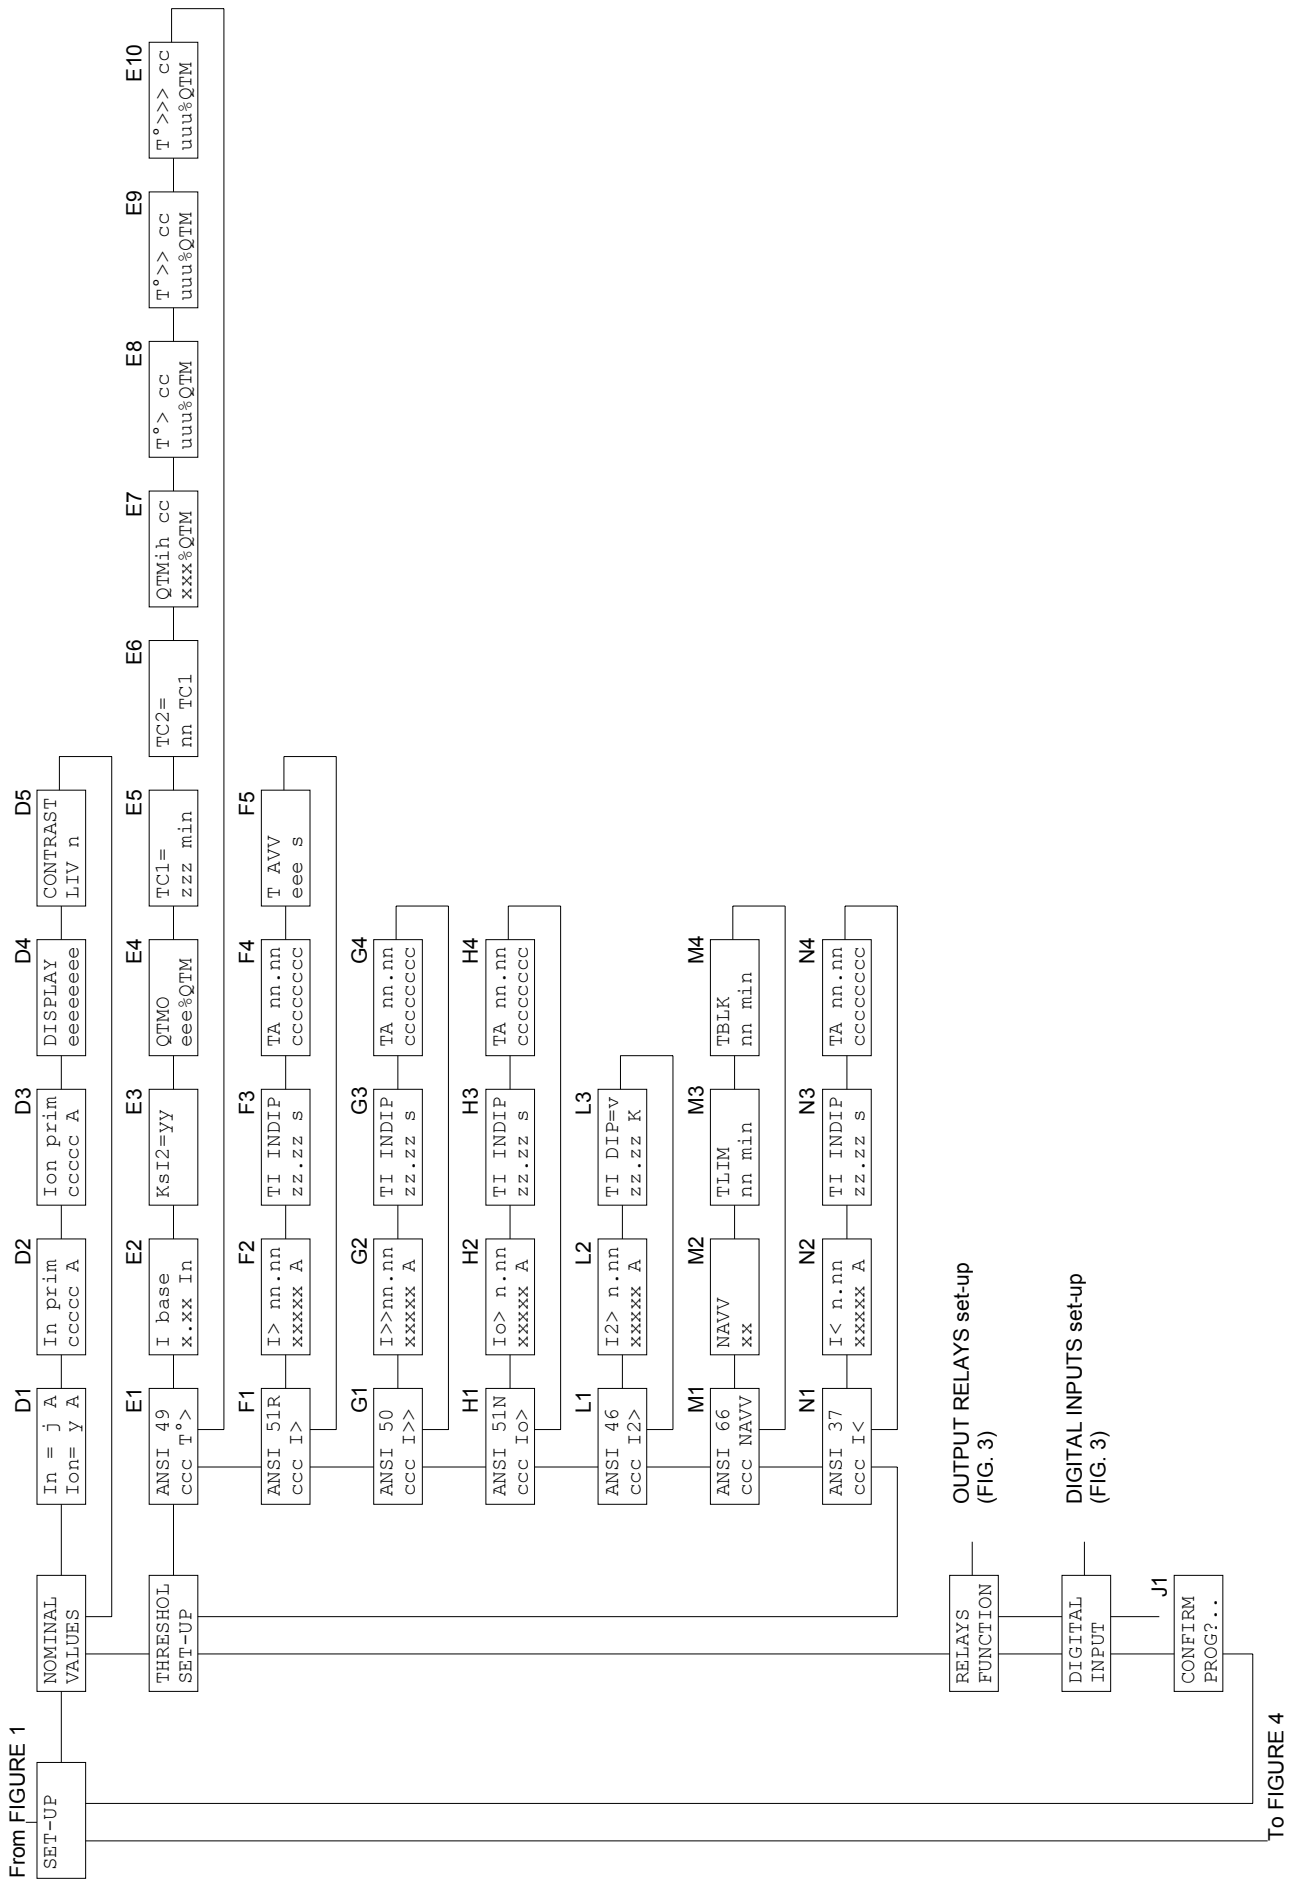

Figure 2
- 5) **CONFIRM** the new protection relay set-up at the visualization CONFIRM PROG? (Fig. 2, ref. J1) within 5 minutes depressing the push-buttons buttons [ENTER],  up to visualize **YES** and [ENTER] again to confirm.
and the new programmed set is not accepted; the value of the QTMinh threshold (ref. E7 - fig. 2) or the values of the lower overload thresholds ($T^{\circ}>$, $T^{\circ}>>$, $T^{\circ}>>>$ - ref. E8, E9, E10 fig. 2) must be modified.
5.5 Nominal values set-up (fig. 2)**D1 - NOMINAL CURRENT SELECTION In (programmable)**